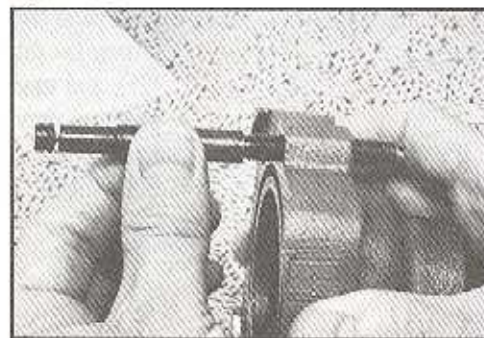

Figure 123
17. Assemble **new** back up ring (10) on adjusting screw (9). Coat **new** o-ring (10A) liberally with clean grease or oil and assemble it carefully over the non-threaded end of adjusting screw. SEE FIGURE 122. If the adjusting screw has been removed from the upper cover, thread the screw through the upper cover (7) from the adaptor face side until .56 inch (14 mm) of thread is exposed beyond the boss. SEE FIGURE 123.